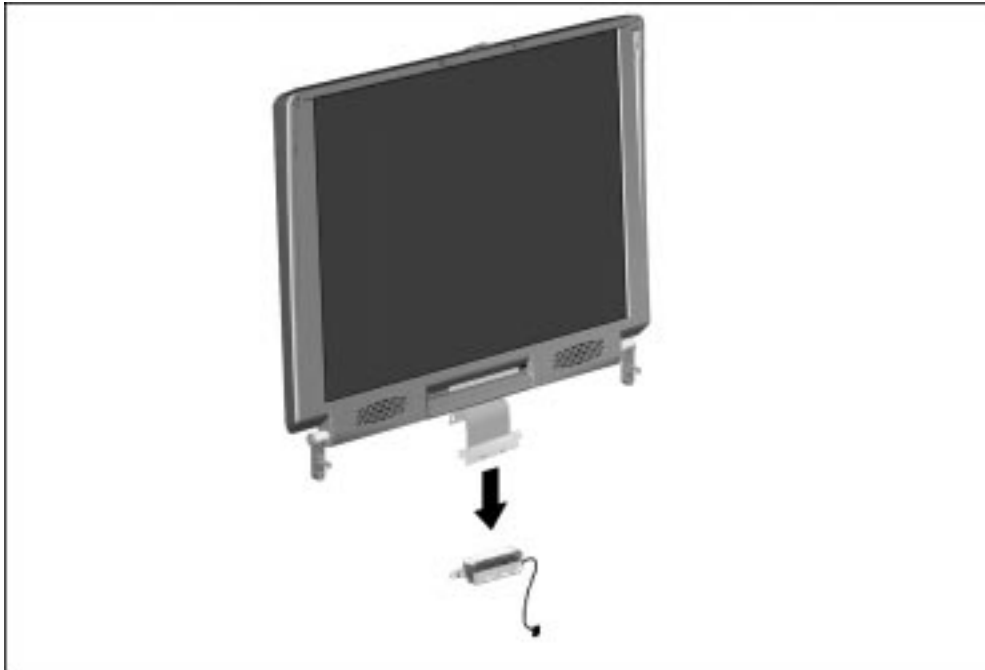

Figure 5-52. Disconnecting the Auxiliary Battery Assembly from the Display Ground Cable
16. Disconnect the auxiliary battery assembly from the display ground cable (Figure 5-52).